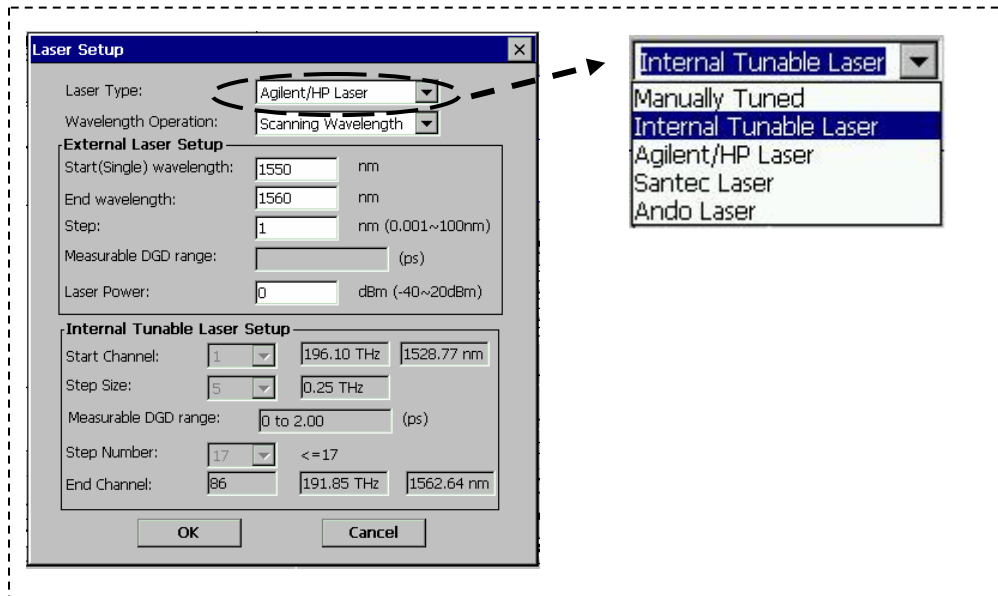

Figure 26 Wavelength scanning (Laser) setup for PDL measurement
- 1) Laser setup: If a wavelength dependent measurement (“PMD/PDL:Jones Matrix” or “PMD/PDL:Mueller Matrix”) is selected, a **Laser Setup** dialog box will pop up (Figure 26). Select the laser type from the pull-down menu. Available options include internal tunable laser, Agilent/HP laser, Santec laser, Ando laser, and manually tuned laser.
If “internal laser” is selected, the “**Internal Tunable Laser Setup**” box will be enabled. Set the “Start channel” (channel 1-89), “Step Size” (number of channels in each step) and “Step number” (number of steps in the scan) from the pull-down menus (Figure 26). After the scan parameters are set, the corresponding frequencies and wavelengths are calculated and displayed in the boxes next to the parameters.
If the external or manually tuned laser is selected, set the “Start wavelength”, “End wavelength”, “Wavelength step” size and “Laser output power” in the “**External Laser Setup**” box (Figure 26).